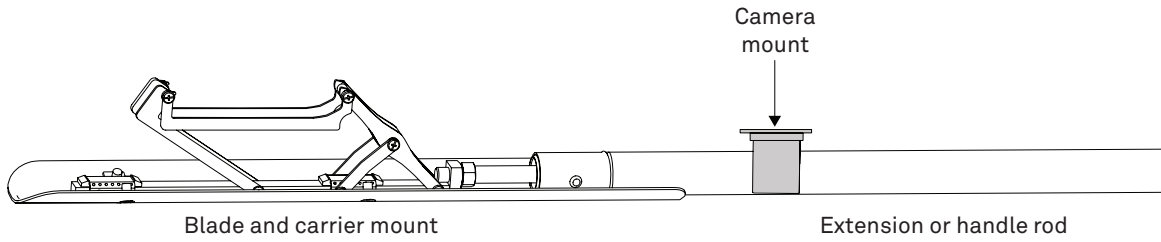

Figure 9 Mounted camera clip
1. Mount the camera clip on the lower end of the rod right above the blade (Figure 9). Mounting the camera to the side will allow the user to be able to see the sensor insertion.